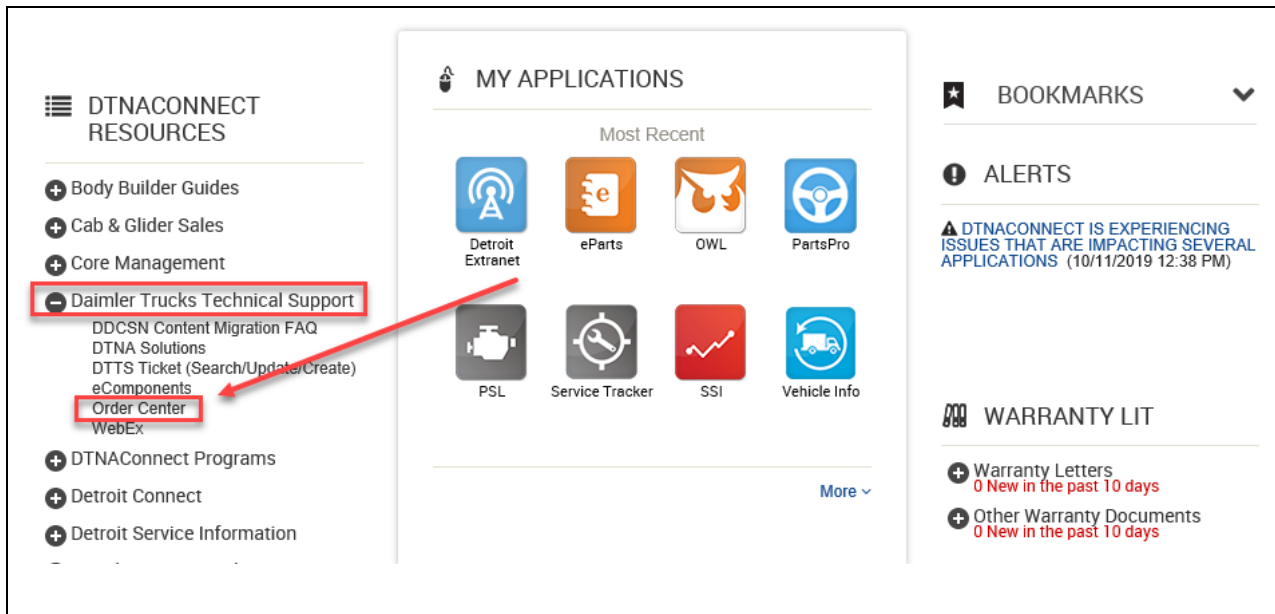

Fig. 7, DTNA Connect
1. Navigate to the Order Center on DTNA Connect. See Figures 7 and 8 below.